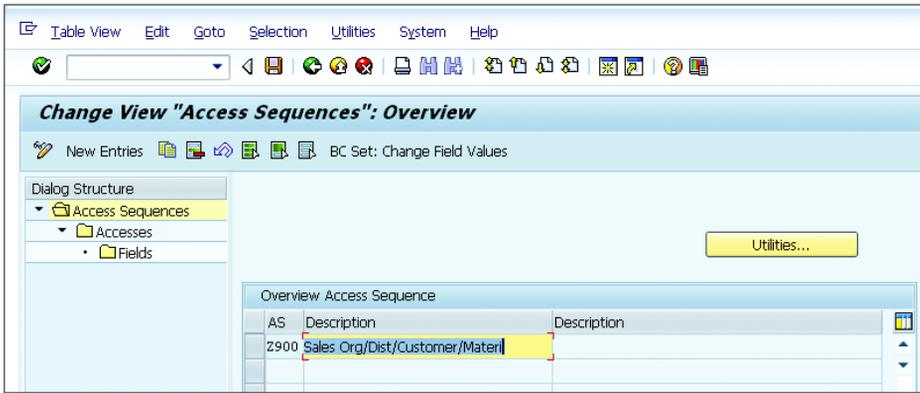
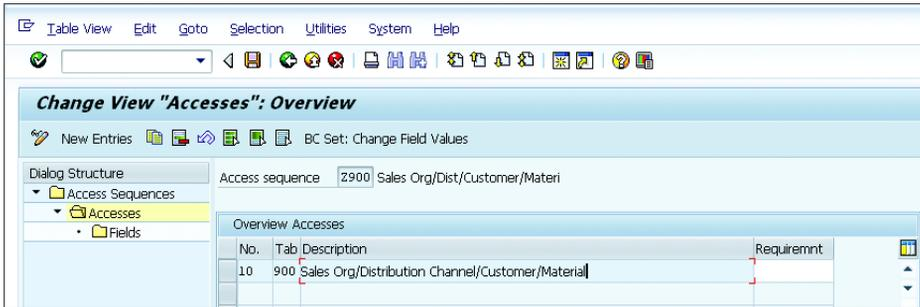
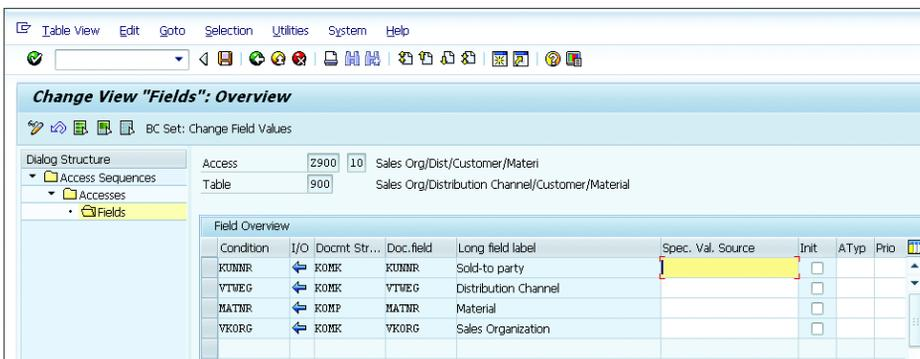

Figure 4.46 Access Sequence
Figure 4.47 Assigning the Condition Table to the Access Sequence
Figure 4.48 Fields within the Condition Tables
- To maintain the access sequence for the condition table required to set up the discount in the campaigns, go to SPRO • INTEGRATION WITH OTHER SAP COMPONENTS • CUSTOMER RELATIONSHIP MANAGEMENT • BASIC FUNCTIONS • CAMPAIGN DETERMINATION • MAINTAIN ACCESS SEQUENCE. Figure 4.46, Figure 4.47, and Figure 4.48 show the access sequence maintenance for the campaign determination similar to the pricing procedure access sequence maintenance. This is to determine the correct condition record when the business transaction is created.